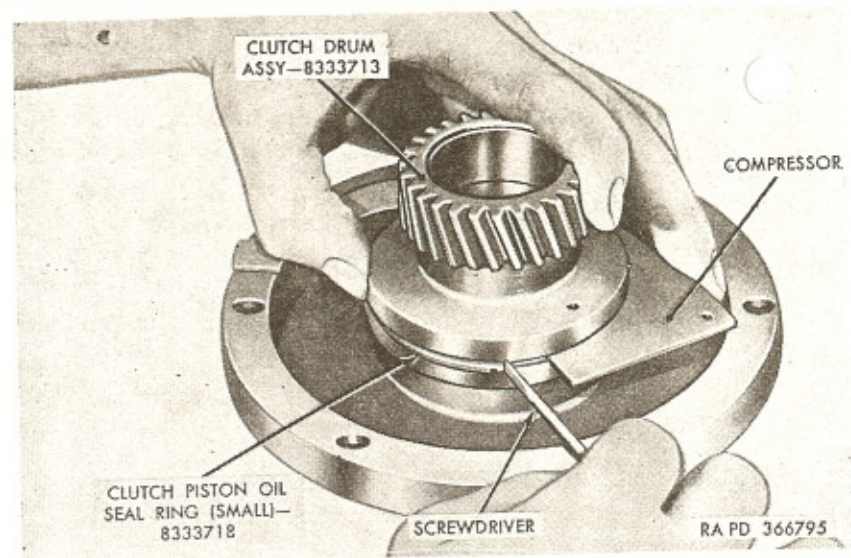

Figure 106. Removing clutch piston small oil seal ring using compressor—C8708711.
e. With clutch piston oil seal ring compressor—C8708711 and thumb, compress clutch piston small oil seal ring (G) in manner shown in figure 106; then using a small pick or screwdriver, unhook ends of oil seal ring. Remove ring from drum groove.
h. With clutch piston oil seal ring compressor—C8708711 (fig. 106) and thumb, compress oil seal ring on clutch drum; then using a small pick or screwdriver, unhook ends of oil seal ring. Remove clutch piston oil seal ring (C) from groove of clutch drum (B). Do not expand oil seal ring more than necessary for removal.